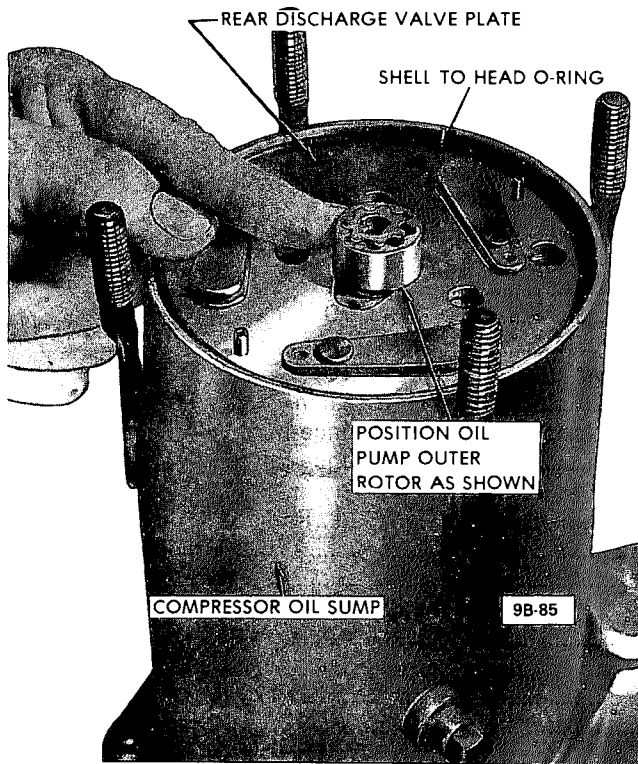

Figure 9B-112 Positioning Oil Pump Outer Rotor - 6 Cylinder Compressor
5. Generously coat with No. 525 viscosity oil new shell to head "O" ring and install in shell (see Figure 9B-112).